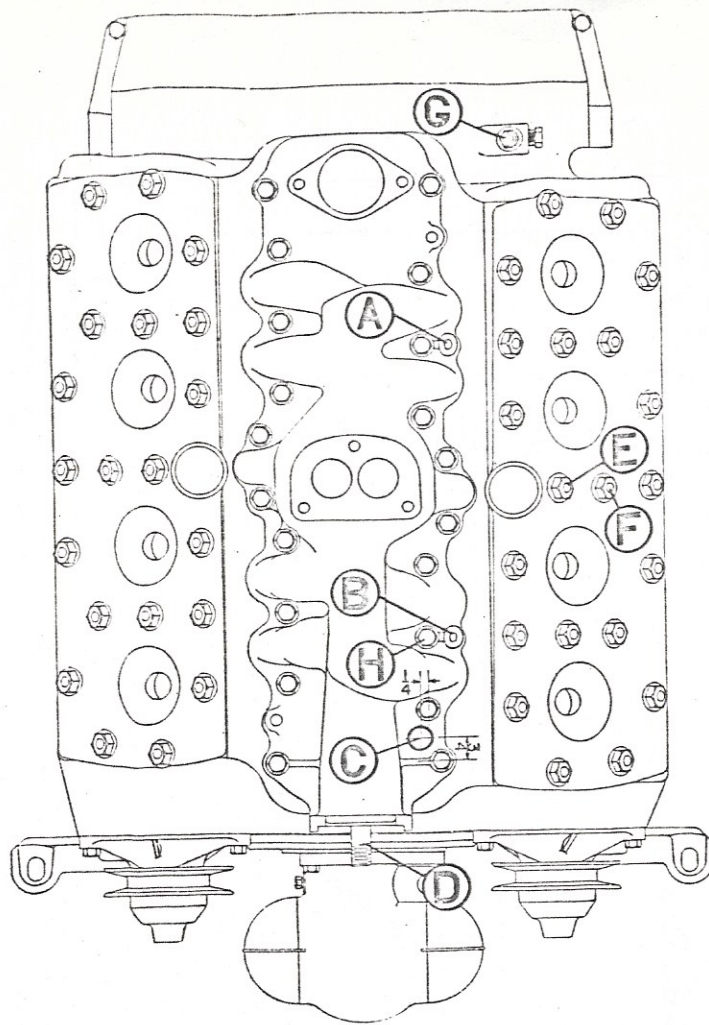

FIGURE 1
3. Drill an 11/16" diameter hole into the valley cover at the location designated by "C" shown in Figure 1.
4. Install the two special screw plugs furnished in vacuum holes "A" and "B" (Fig. 1) in valley cover. Place bolt in hole "H" (Fig. 1).
14. Remove the two studs "E" and "F" (Fig. 1) directly in center of left cylinder bank and replace with the two 3-5/8" long studs furnished. Place generator bracket over studs and fasten securely.
15. Remove 1/4" pipe plug "G" (Fig. 1) in rear of left cylinder bank and replace with special fitting furnished. Connect the 1/4" oil line supplied and pass over bell housing to right side of motor. Connect to fitting on bottom of Supercharger case.